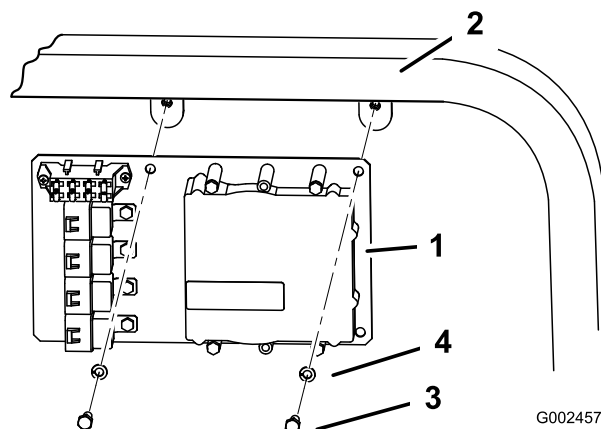

Figure 9
- For the Multi-Pro 1200 and 1250, install the mount plate using 2 bolts (5/16 x 3/4 inch) and 2 lock washers (5/16 inch) as shown in Figure 9.